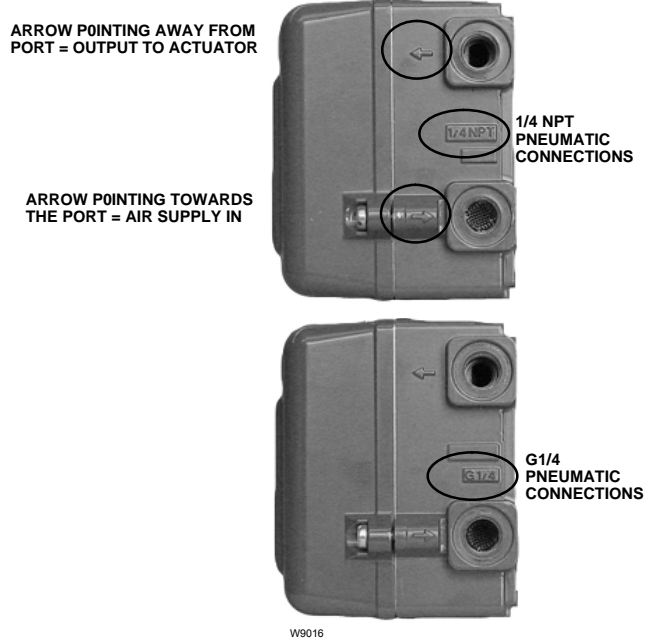

Figure 2-7. Conduit and Pneumatic Thread Variations
9. Install tubing between the actuator casing and the pneumatic positioner output connection that has the arrow pointing away from the opening. See figure 2-7.
6. Install tubing between the actuator casing and the pneumatic positioner output connection that has the arrow pointing away from the opening. See figure 2-7.
Connect the nearest suitable supply source to the connection with the arrow pointing towards the opening (see figure 2-7).